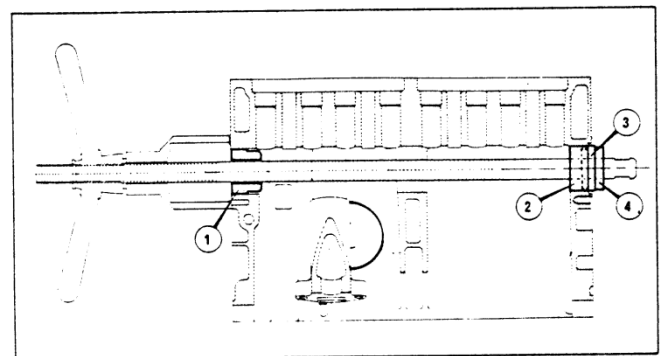
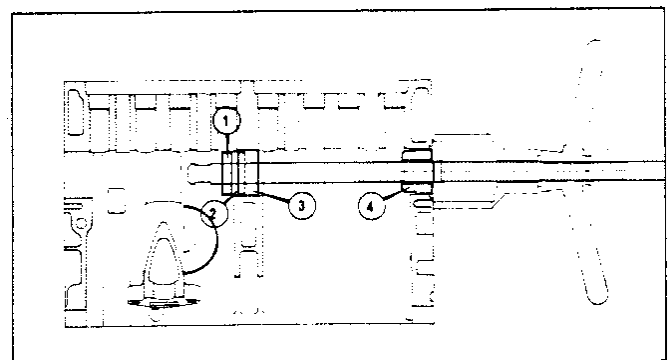

Figure 20 Removing camshaft rear bearing
Figure 21 Removing camshaft centre bearing
- (a) Insert general tool and position pilot, mandrel and horseshoe as shown in **Figure 20**.
- (c) To remove centre and front camshaft bearings position the general tool and components as shown in **Figure 20** and **Figure 21**.